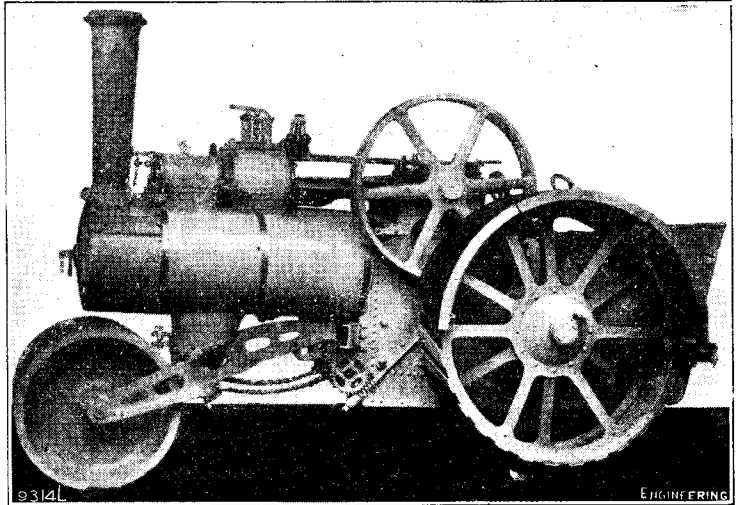

Fig. 19. Eddington & Steevenson's engine as a road roller
6. Traction wheels can be shod with cast-iron segments as seen in Fig. 19 when converted to a
Fig. 19 shows the engine converted to its road roller form by attaching the roller frame which carries the pivot of the fore-carriage of the engine, the ordinary steering chains being connected to this frame, one on either side. This frame is carried back towards the firebox, and beneath the boiler barrel, a suitable channel guide is riveted on to the firebox and in this guide the rear end of the frame works. To convert, one had only to remove the traction engine front axle and then substitute the roller attachment, fit the cast-iron segments to the rear wheels (item 6), when the conversion was complete.